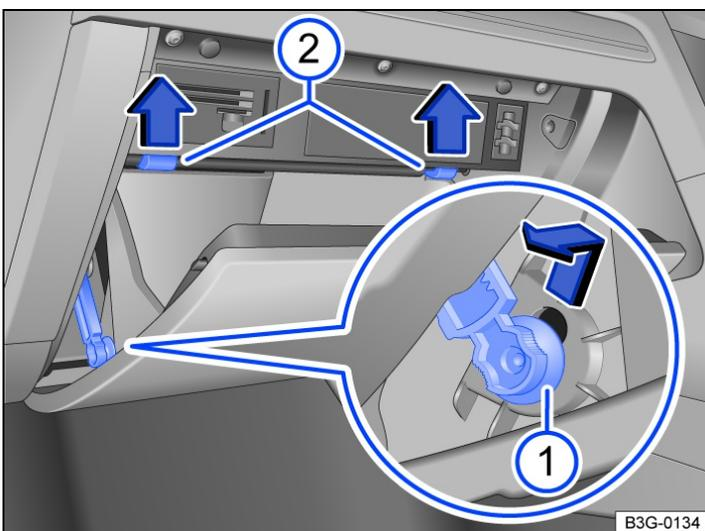

Fig. 2 Fuse box cover in the dash panel: right-hand drive vehicle, on the front passenger side.
- Open the glove box and empty if necessary → Fig. 2.
- Push damper element upwards into the opening of the holder and pull out to the side → Fig. 2 ^①.
- Push catches upwards in the direction of the arrow at the same time open the stowage compartment further → Fig. 2 ^②.
- To *install*: move the stowage compartment into position. Insert the damper element into the opening in the holder and slide upwards until it engages audibly. Carefully push the stowage compartment forwards beyond the resistance of the catches → Fig. 2 ^②.